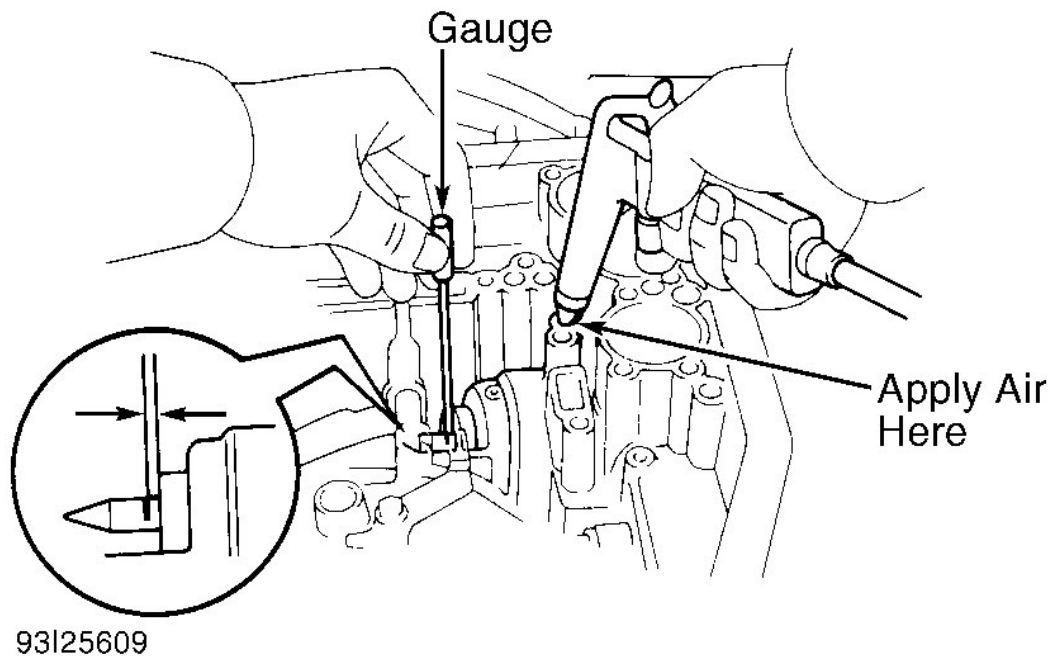

Fig. 33: Checking 2nd Coast Brake Piston Stroke
1. Prior to disassembly, check brake piston stroke. Apply paint to piston rod at point rod meets transaxle case. Apply compressed air to oil passage and measure piston stroke using Wire Gauge Set (09240-00020). Piston stroke should be .059-.118" (1.50-3.00 mm). See **Fig. 33**.